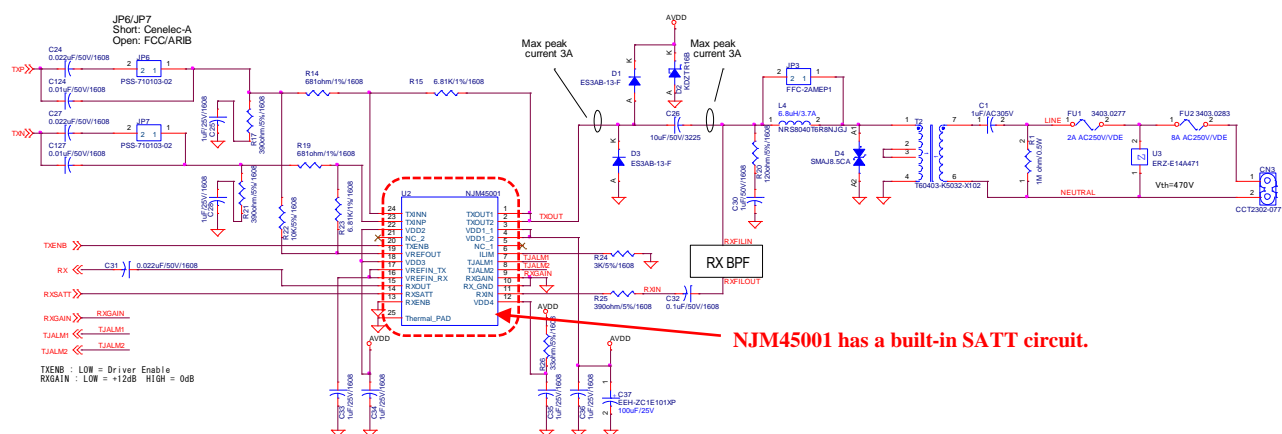

Figure 3-10 Example of Step Attenuator (SATT) circuit
- Figure 3-10 shows an example of the SATT circuit used for the PLC board.